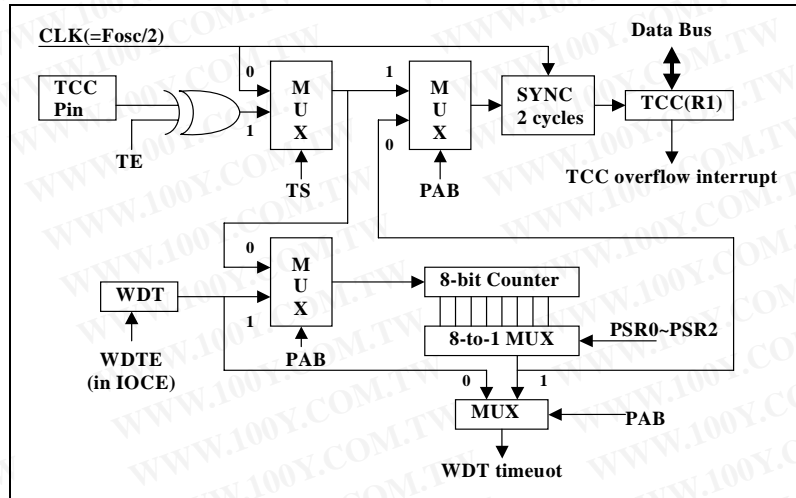

Fig. 6 TCC and WDT Block Diagram
An 8-bit counter is available as prescaler for the TCC or WDT. The prescaler is available for either the TCC or WDT only at any given time, and the PAB bit of the CONT register is used to determine the prescaler assignment. The PSR0~PSR2 bits determine the ratio. The prescaler is cleared each time the instruction is written to TCC in TCC mode. The WDT and prescaler, when assigned to WDT mode, are cleared by the "WDTC" or "SLEP" instructions. Fig. 6 depicts the circuit diagram of TCC/WDT.
- R1 (TCC) is an 8-bit timer/counter. The TCC clock source can be internal or external clock input (edge selectable from TCC pin). If the TCC signal source is from the internal clock, TCC is incremented by 1 every time an instruction cycle is executed (without prescaler). Referring to Fig. 6,  $CLK = Fosc/2$  or  $CLK = Fosc/4$  selection is determined by the Code Option bit CLK status.  $CLK = Fosc/2$  is used if CLK bit is "0", and  $CLK = Fosc/4$  is used if CLK bit is "1". If the TCC signal source comes from an external clock input, TCC is incremented by 1 at every falling edge or rising edge of the TCC pin.